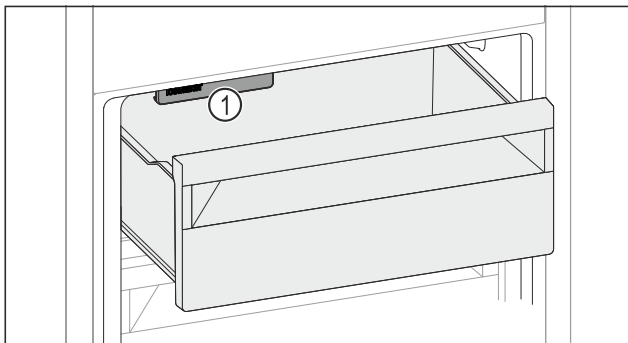

Fig. 111
- ▶ Uzmite u obzir IceMaker *Fig. 111 (1)*.